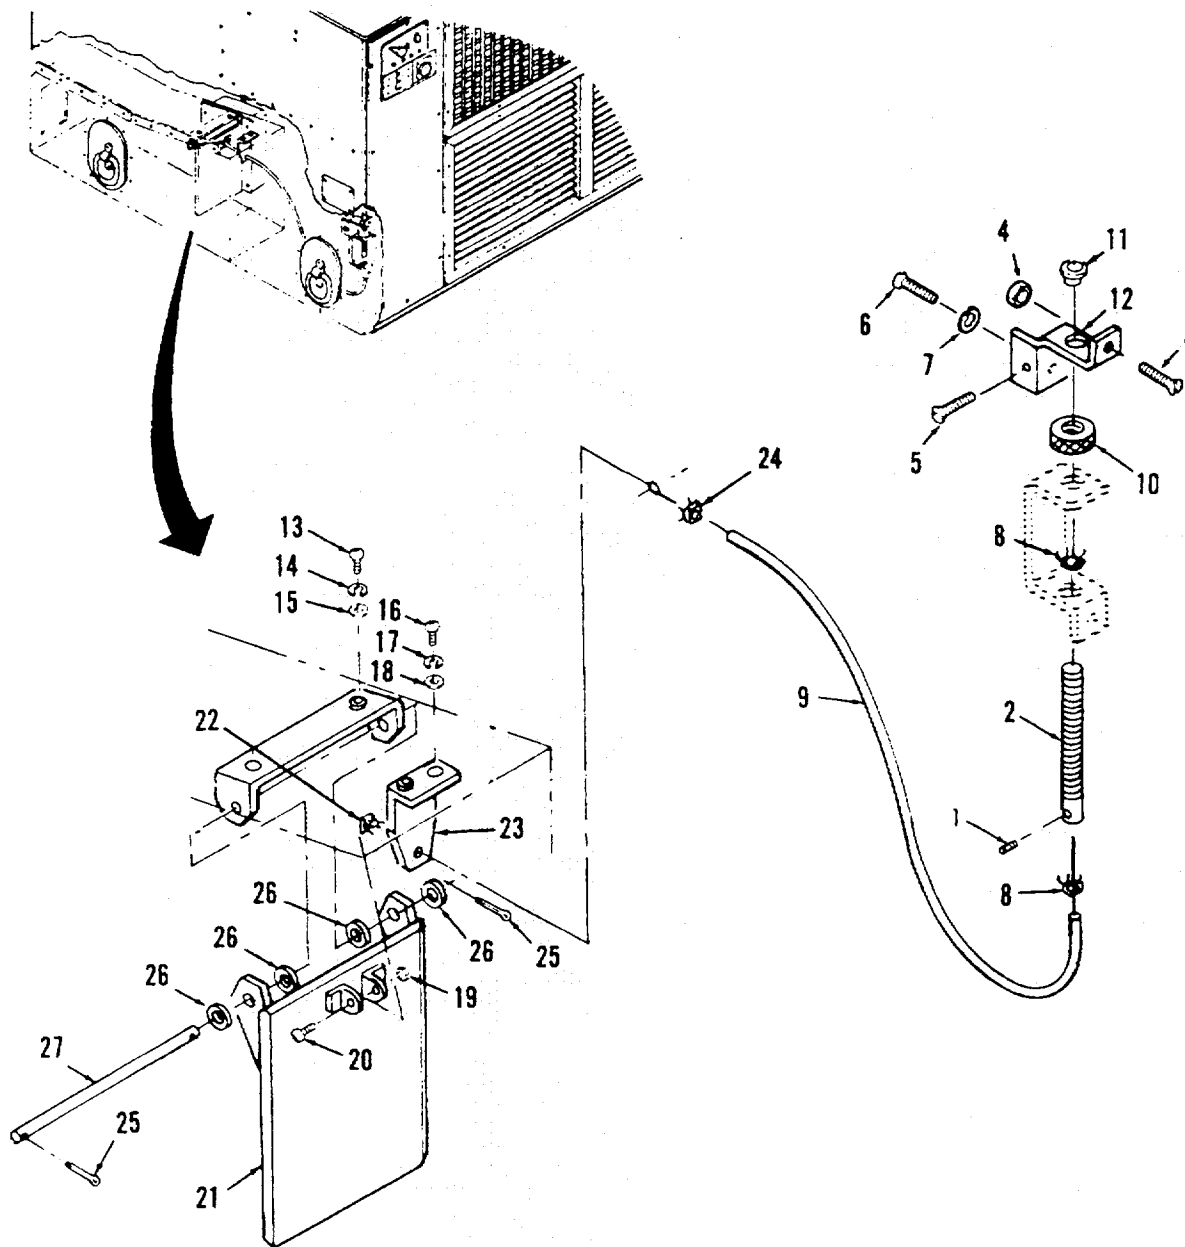

Figure 4-11. Damper Actuator and Ventilation Damper.
**a. Removal.** (Refer to Figure 4-11).
- (1) Loosen set screw (1) on damper actuator (2).
- (2) Remove screw (3), nut (4), screw (5), screw (6), lock washer (7), and bracket.
- (3) Compress two clamps (8) and pull end of control cable assembly (9) through bracket of housing.
- (4) Remove actuator nut (10) and damper actuator (2).
- (5) Remove bushing (11) from bracket (12).
- (6) Remove two screws (13), two lock washers (14), and two flat washers (15).
- (7) Remove two screws (16), two lock washers (17), and two flat washers (18).
- (8) Pull assembled damper assembly from opening in front of air conditioner cabinet.
- (9) Remove nut (19) and screw (20) from damper (21).